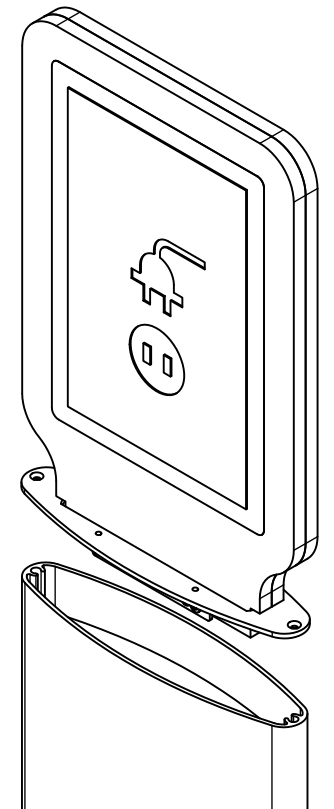

FIGURE 5
1) For units with light kit: Secure the light kit on the unit by tightening the screws to 10 lbs.in. (**Figure 5**)